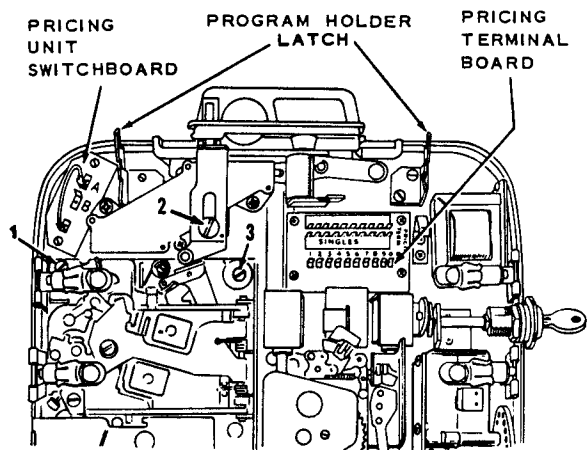

Figure 2.
- C. Unscrew 1, 2 and 3 (Figure 2).